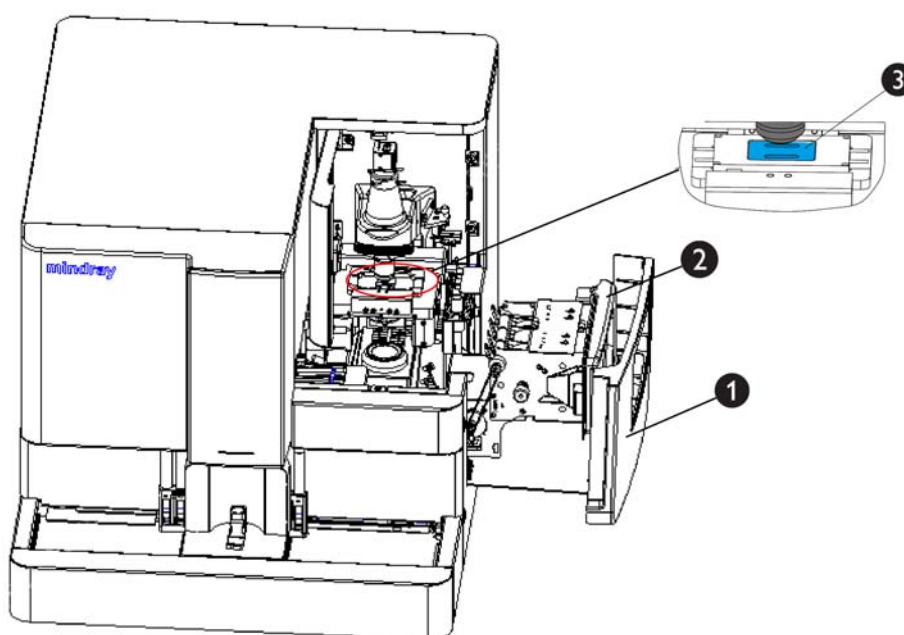

Figure 10-2 Cleaning count bath
2. Push the front cover of analyzer upward (1).
3. If the camera lens is right above the count bath, rotate the lens to reveal the count bath (2).
4. (3)
5. Use cotton swab to clean the surface of count bath (Figure 10-2 Cleaning count bath, position 3) gently.